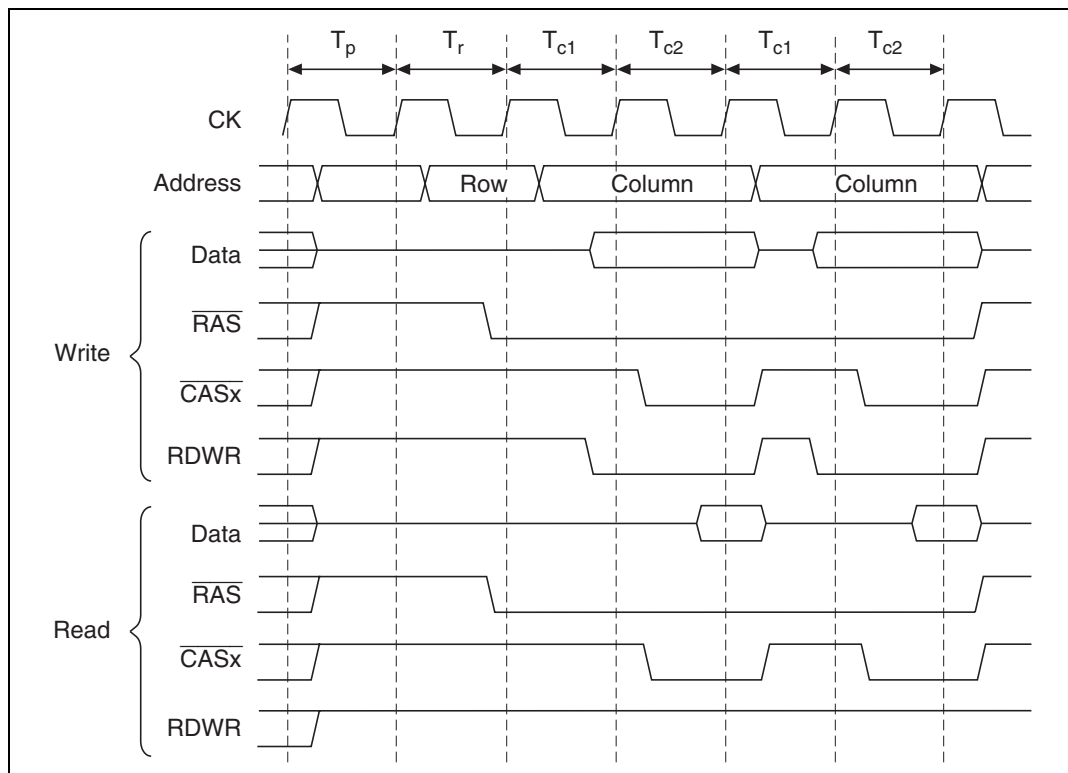

Figure 8.12 DRAM Bus Cycle (High-Speed Page Mode)
High-Speed Page Mode: When the burst enable bit (BE) of the DCR is set, burst accesses can be performed using high speed page mode. The timing is shown in figure 8.12. Wait cycles can be inserted during burst accesses by using the DCR.